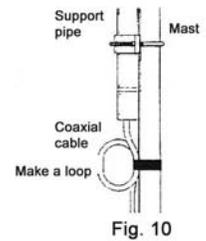

Fig. 10
- After connecting coaxial cable, fix waterproof sleeve to the bottom of support pipe with a screw. Turn connected coaxial cable once to make a loop right below the antenna as shown in Fig. 10 to escape excess load from the cable.